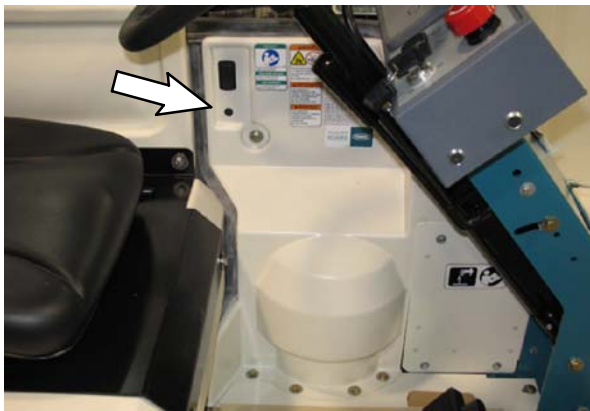

FIG. 7
9. Remove the motor cover panel from the operator compartment. Set the hardware and panel aside. Refer to Fig. 7.